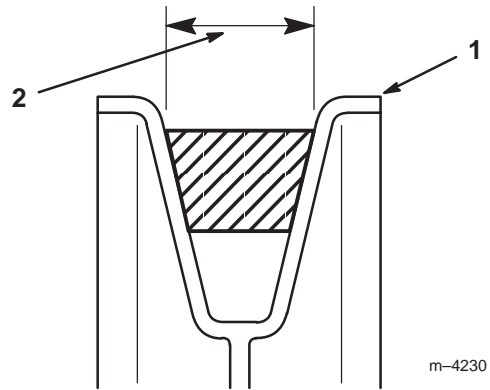

Figure 7
4. Make certain that the wide side of the PTO drive belt is toward the outside diameter of **all the pulleys (Fig. 7).**